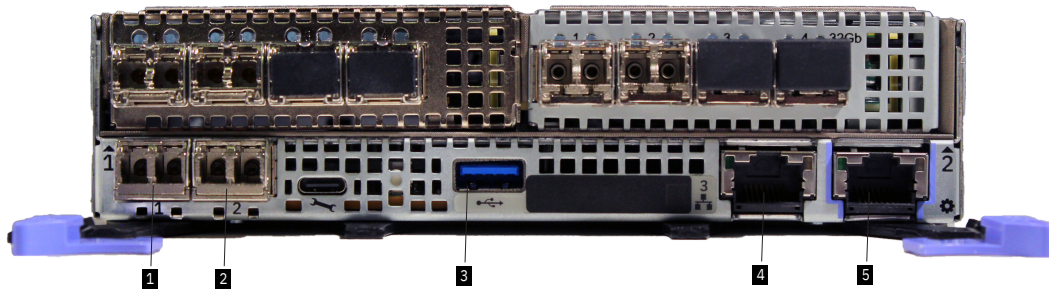

Figure 55. Technician port
4. Disconnect the personal computer from all networks. Connect an Ethernet cable between the port of the personal computer that is configured in step “2” on page 98 and the technician port in the left canister (1) that is shown in Figure 55 on page 99.